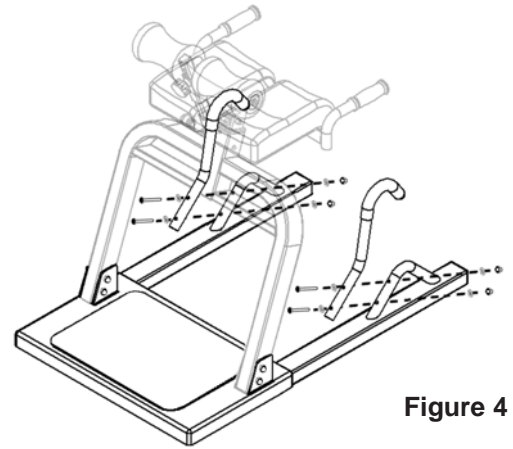

Figure 4
- Align the two holes in the Cane Shaped Handles to the holes in the handle supports on the Base Frame (See Figure 4).